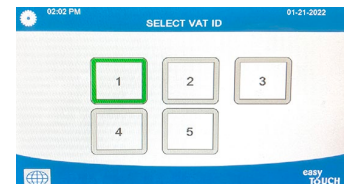

Figure 22
- For new controllers without a locator wire, the Vat to operate correctly and avoid a duplicate Vat ID **DUPLICATE BOARD VAT ID** is detected, **ALL** setup screen (see Figure 22). Select the correct VAT ID for **each vat**. Vat ID #1 is far left controller. Vat ID #2 is the next controller to the right, etc. If changes are required, go to Service>Service>3000>Tech Modes>Select Vat ID. Ensure the Vat ID is set up for correct vat ID number. Once all VAT IDs are selected, power cycle the fryer battery using process in Step 2 on the first page.